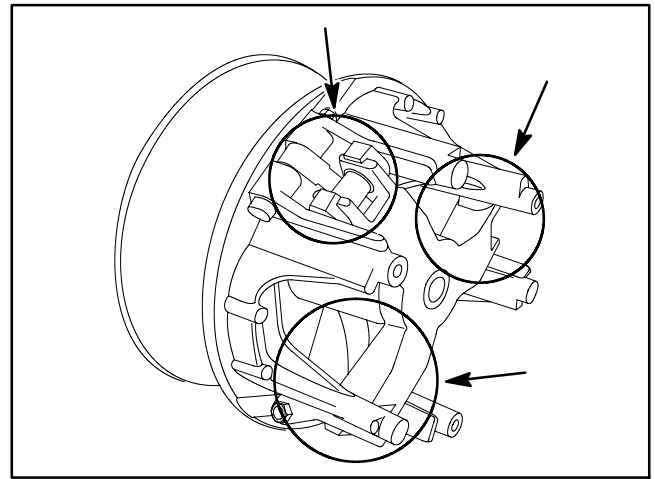

Figure 15
4. Lubricate the clutch components in areas shown in Figure 15 using Toro Dry Lubricant Spray (see Special Tools). Avoid getting lubricant on drive belt.
5. Install cover to clutch and secure with three (3) cap screws. Torque cap screws from **75 to 100 in-lb (8.5 to 11.3 N-m)**.